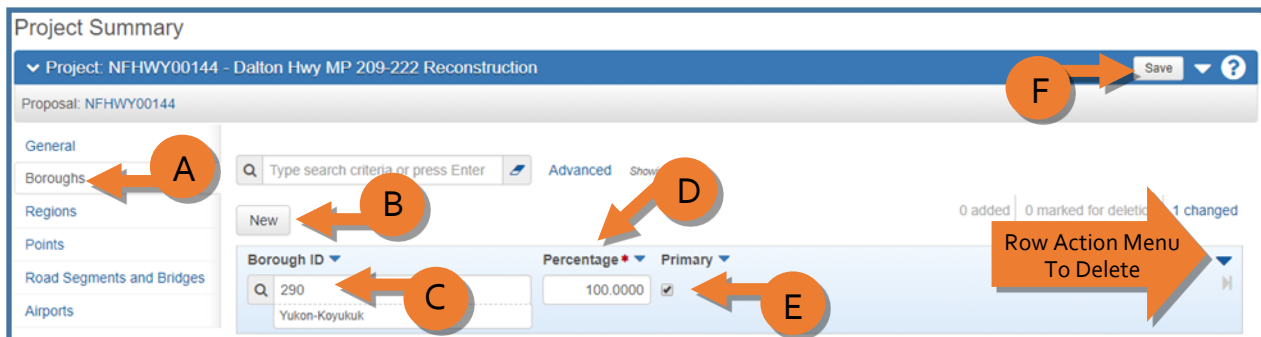

Figure 3.13
1. From the Project Summary component (*Figure 3.13*):
2. (A) Select the **Boroughs** tab.
3. (B) Click the **<New>** button.
4. (C) In the **Borough ID** field, search for and select the borough name or area if the project work will be performed outside of formal borough limits and the name will appear. If you are unsure of the outside borough area choices, put your cursor in the field and hit the **<Enter>** key to display the data list.
5. (D) In the **Percentage** field, enter the approximate percentage of the project that falls within that borough or area. NOTE: The sum of the borough percentages on a project must equal 100%. If boroughs are added or deleted from the Project record, remember to adjust the percentages so as to always equal 100%.
6. (E) Check the **Primary** checkbox if this is the primary borough or only borough for this project.
7. (F) Click **<Save>**.
To modify a borough record imported from MRS (or created earlier) it is not necessary to delete the existing borough record and create a new one. Simply modify the existing record (see *Figure 3.13* above):
2. Expand the **row actions menu** on the right side and select **Delete** (see *Figure 3.13*). The borough record is marked for deletion and users may “undo”  the action until the user clicks **<Save>**.